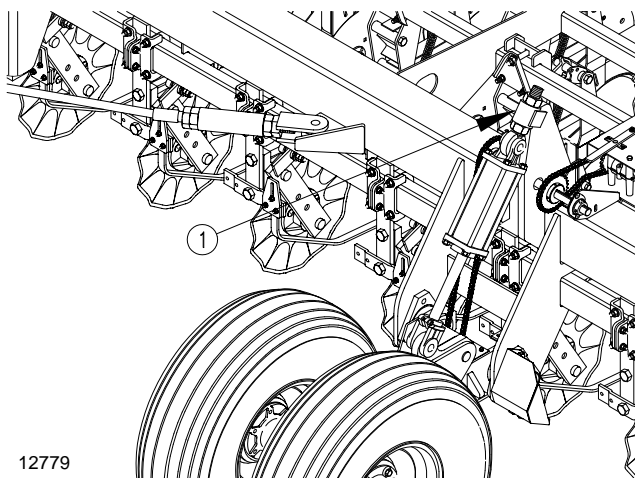

Figure 9
1. Begin the leveling process. Locate the threaded eye bolt at the base end of a gauge-wheel cylinder shown in Figure 9. The eye bolt is locked in place by a jam nut on each side of a tube (1) welded to the cylinder lug. Observe the amount of thread exposed above the upper nut and below the lower nut. If the exposed threads are roughly equal above and below the jam nuts, no initial adjustment is needed. Go to step 3.